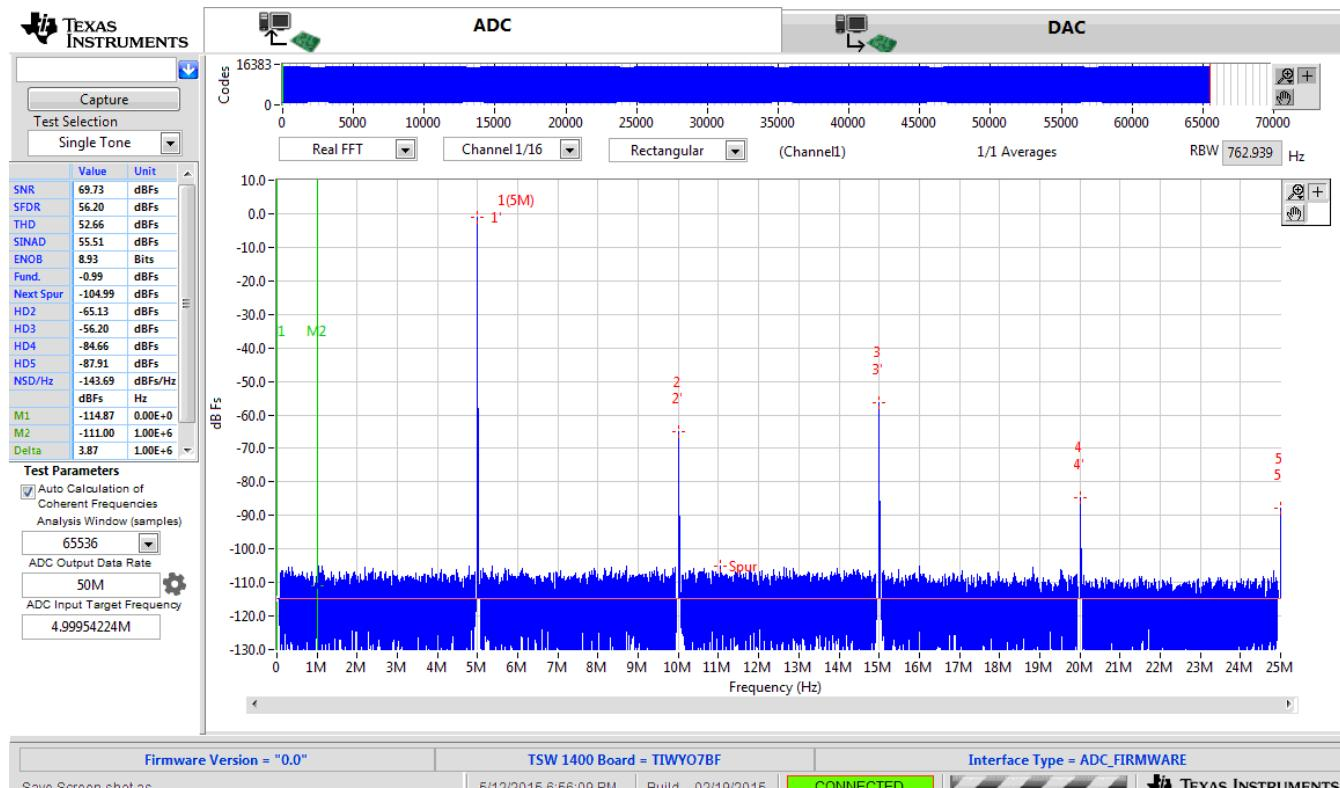

Figure 21. Analog Input Capture
2. Return to HSDCPro, and press the *Capture* button. A capture similar to that shown in Figure 21 appears. The quality of the output spectrum depends heavily on the coherency and the purity of the input signal and clock. Since it is not possible to sync the input signal with the on-board clock, TI recommends using a window in HSDCPro (found at the top of the spectrum graph). *Blackman* or *Hanning* works, do not use *Rectangular*.